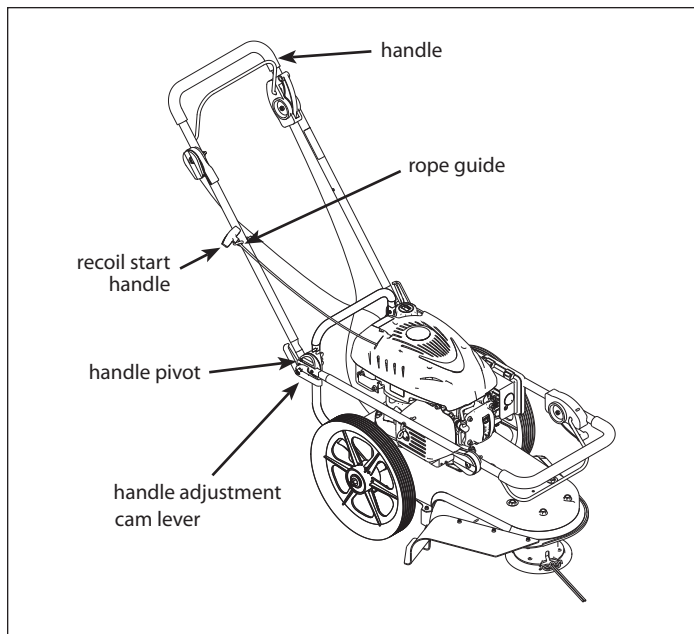

FIGURE 3: Adjusting the handle bars.
5. To attach the recoil start handle to the rope guide, twist the rope through the rope guide mounted on the right side of the handle. **SEE FIGURE 3**